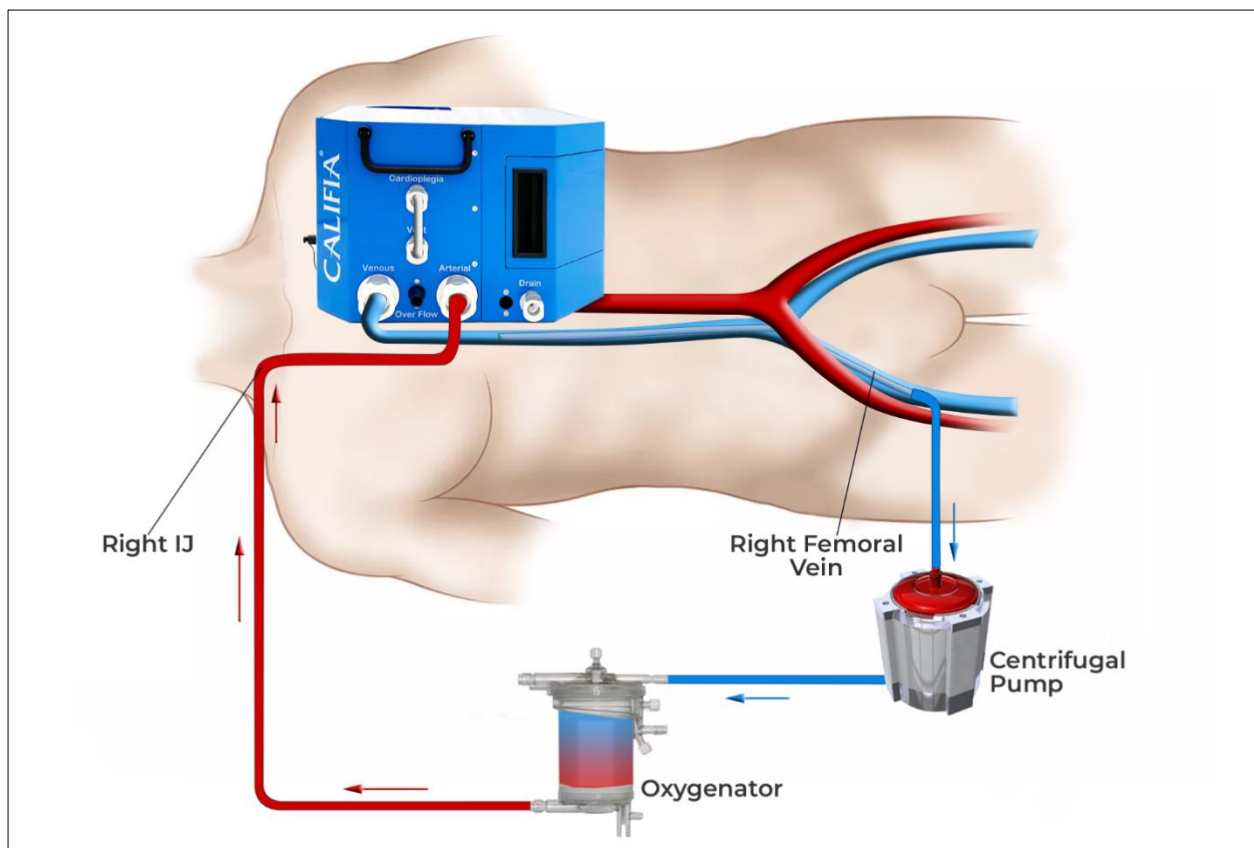

Figure 1.5 VV ECMO with CPM
1.3.2 **VV ECMO** --Figure 1.5, illustrates connections between a VV ECMO circuit and the CPM. Table 1.3 summarizes these connections.